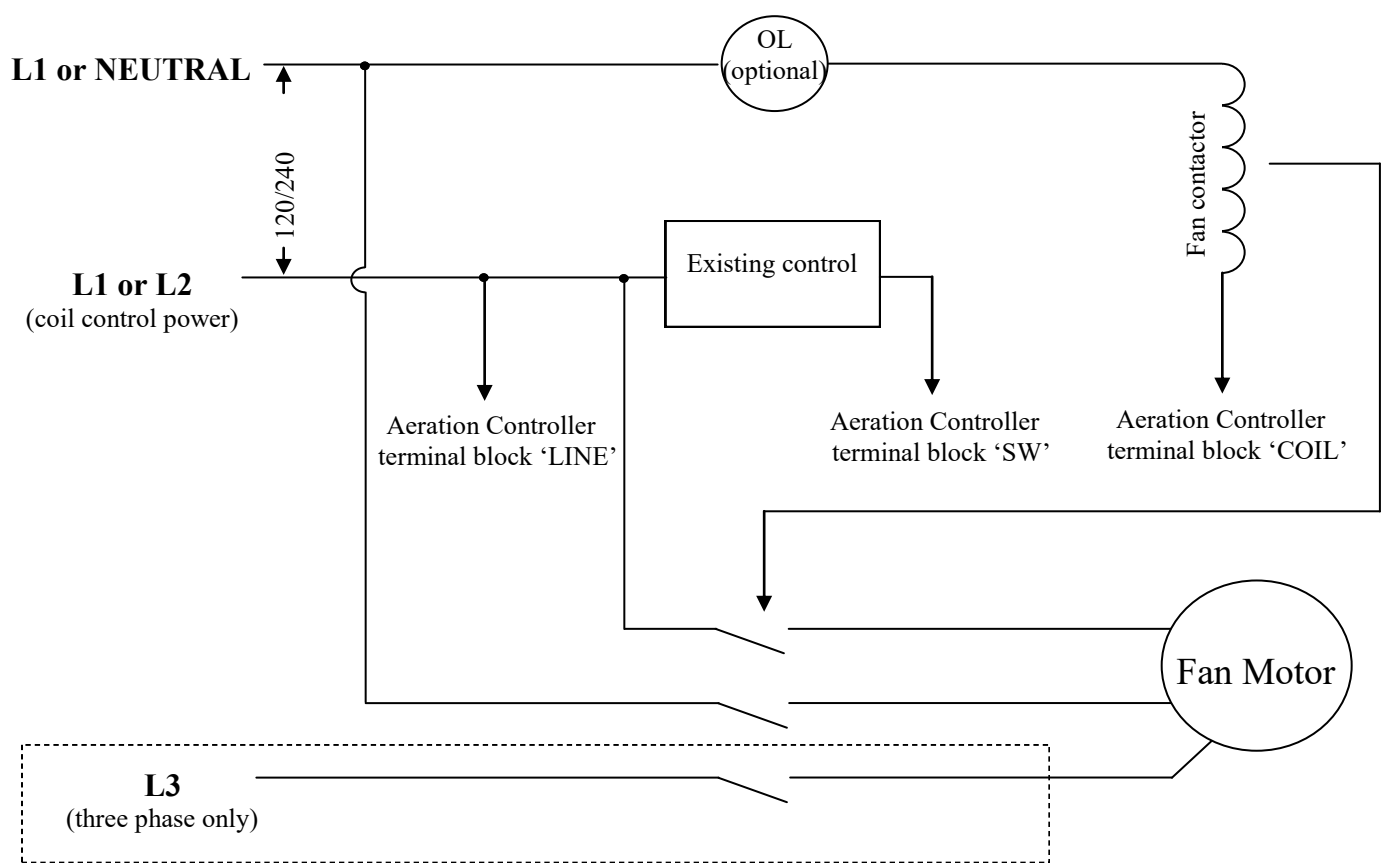

FIG 4
9. If applicable, connect the Aeration Controller to the existing heater control wiring as per Fig 4.